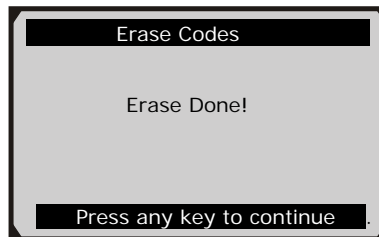

Figure 5.8
- If the codes are cleared successfully, an "Erase Done!" confirmation message shows on the display. (Figure 5.8)